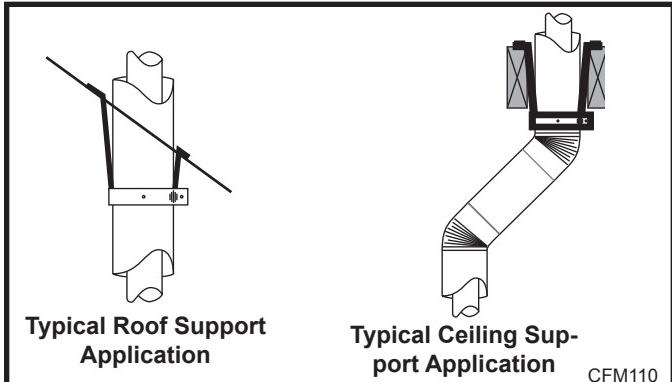
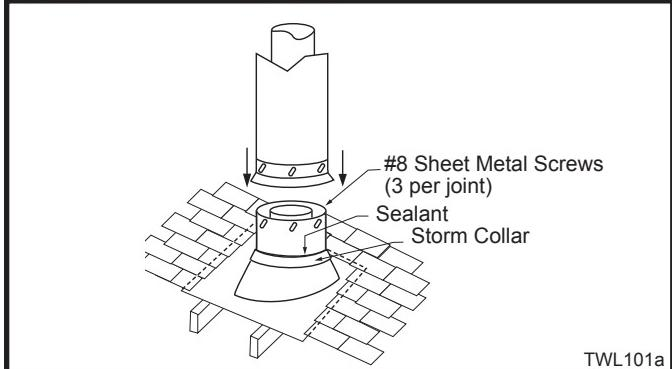

Fig. 58 Roof and ceiling supports.
Fig. 59 Roof flashing.
- 7DVCS must be used to support offsets. (Fig. 58) This application will require that you first determine the roof pitch and use the appropriate starter kit. (Refer to Venting Components List)
- Install roof support (Fig. 58) and roof flashing making sure upper flange of flashing is below the shingles. (Fig. 59)
8. Install appropriate pipe sections until the venting is above the flashing. (Fig. 58)
The enlarged ends of the vent section always face downward. (Fig. 59)